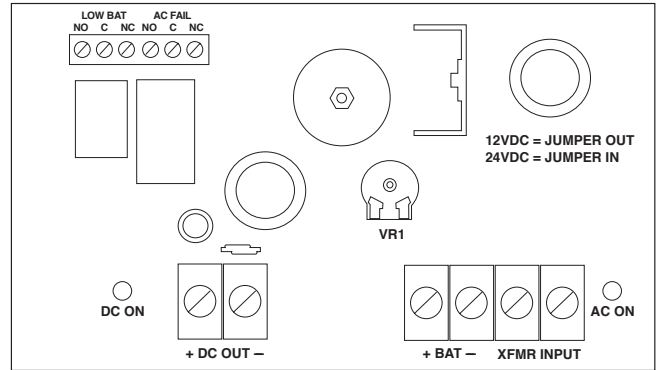

Fig. 1
4. Connect battery to terminals [+ BAT -] as marked on the unit (battery leads included). Use two (2) 12VDC batteries connected in series for 24VDC operation.
6. Connect devices to be powered to terminals marked [ + DC -] (Fig. 1).